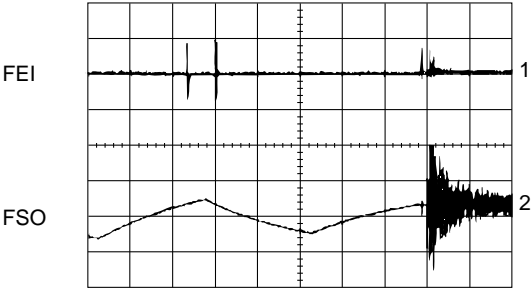

Figure 10-3
- 2-1: Focus Servo Gain (Fig. 10-3)